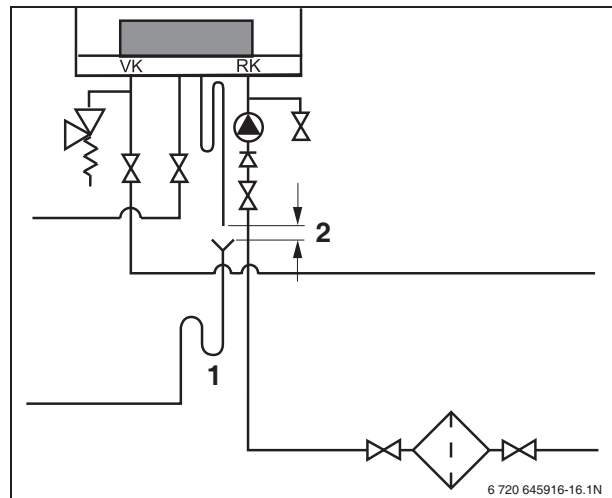
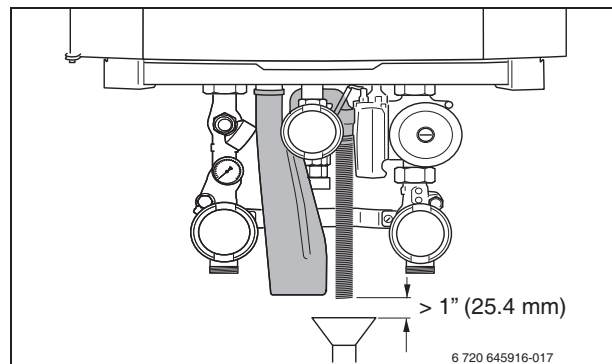

Fig. 16 Connecting the condensate trap
Fig. 17 Condensate drainage pipe
- An air gap of at least 1" (25.4 mm) must be maintained between the boiler condensate trap hose and the condensate pipe work, → fig. 16 and fig. 17.